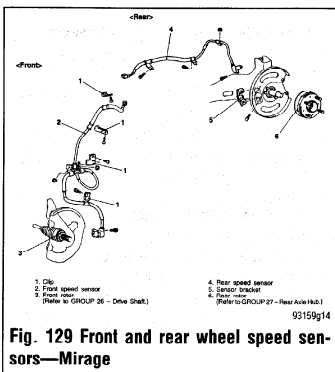

Fig. 129 Front and rear wheel speed sensors—Mirage
▶ See Figure 129
▶ See Figure 129 and 130